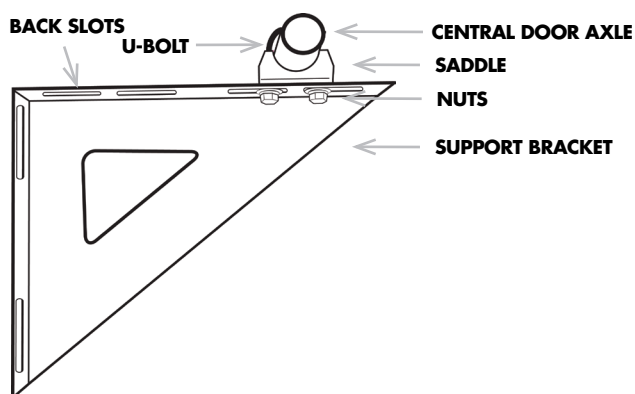

FIG. 3 SUPPORT BRACKET SHOWING SADDLE & AXLE POSITIONING
3. Place saddles between axle and support bracket and secure with U-bolts and nuts as shown in Fig. 3. Do not tighten U-bolts at this stage.